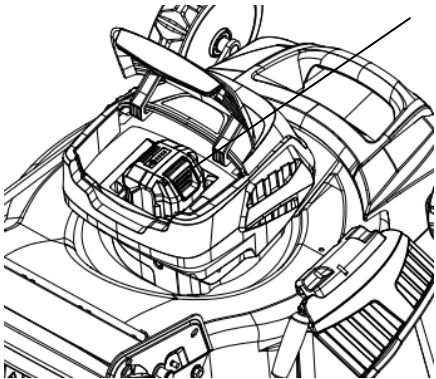

Fig.6A
3. Depress the battery-release button. (Fig.6A)